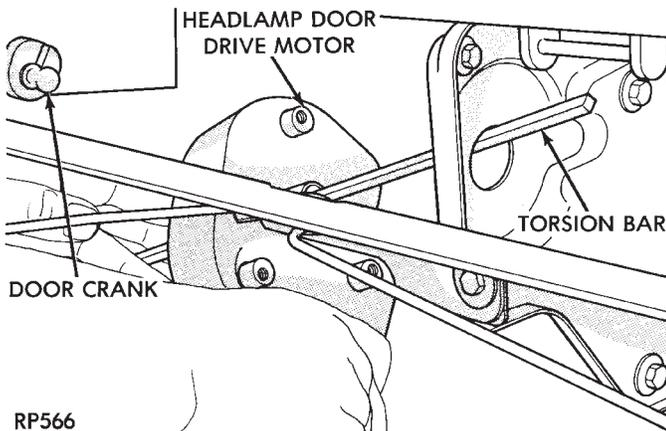

Fig. 10 Concealed Headlamp Drive Motor
(3) Tip the torsion bar and drive motor assembly to the right side of the vehicle and slide the torsion bar out of the motor. Remove the drive motor from the vehicle (Fig. 10).